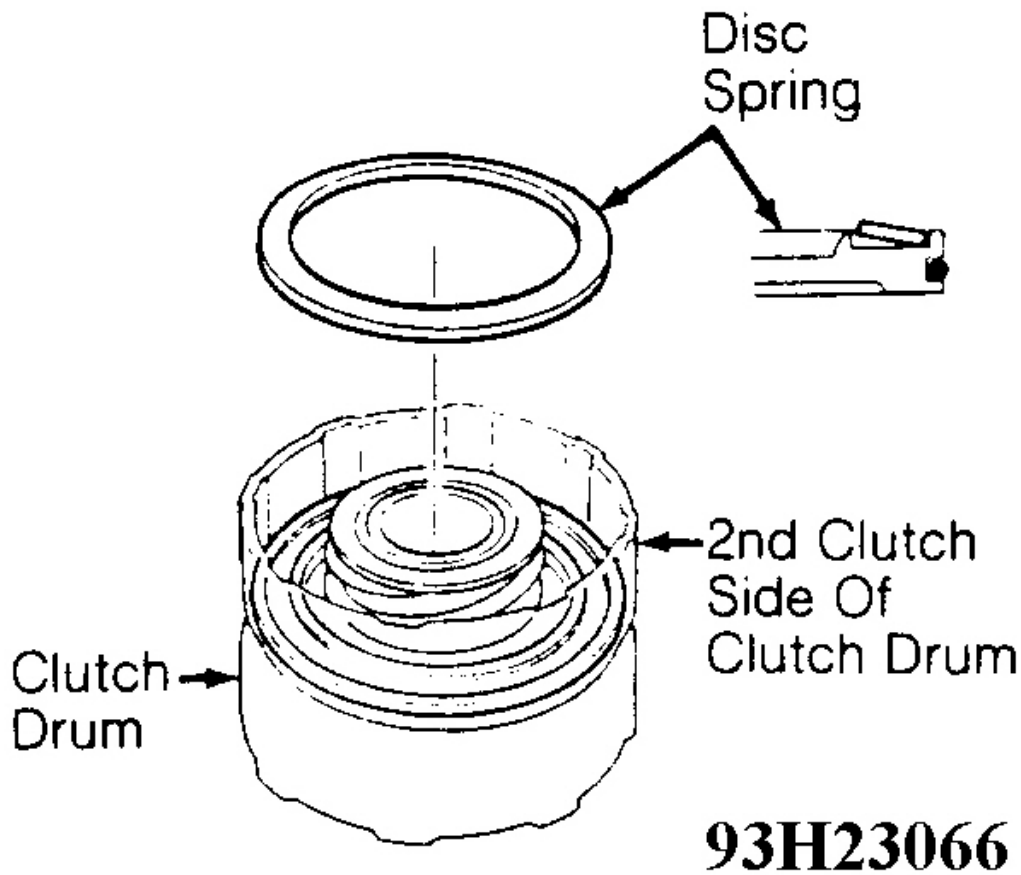

Fig. 29: Installing Disc Spring On 2nd Clutch
3. Install disc spring on 2nd clutch. Ensure disc spring is installed in proper direction. See **Fig. 29**.